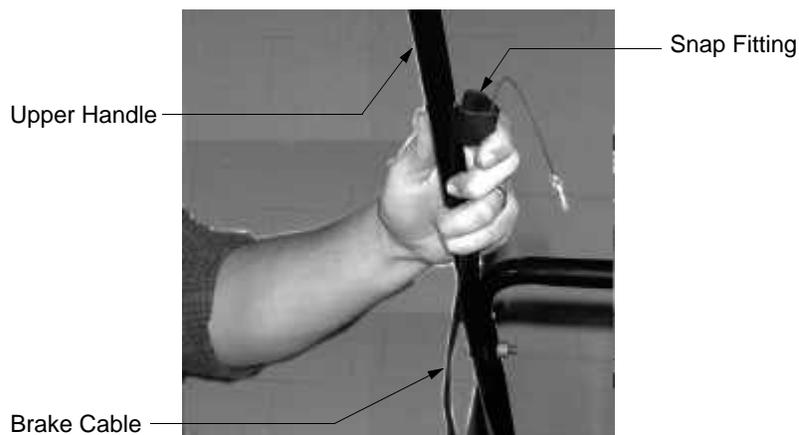

FIGURE 5
- Locate the snap fitting on the cable. The shaft inside this snap fitting fits into the middle hole on the inside of the left upper handle. Position the snap fitting so that the shaft is aligned with the hole. Press the snap fitting in place. See Figure 5.